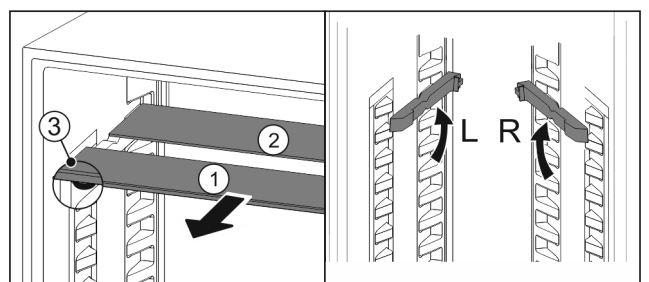

Fig. 146
- ▶ Pull the glass panels out Fig. 146 (1) from the front, one at a time.
- ▶ The glass panel Fig. 146 (1) and trim strip are at the front.
- ▶ The stops Fig. 146 (3) point down.